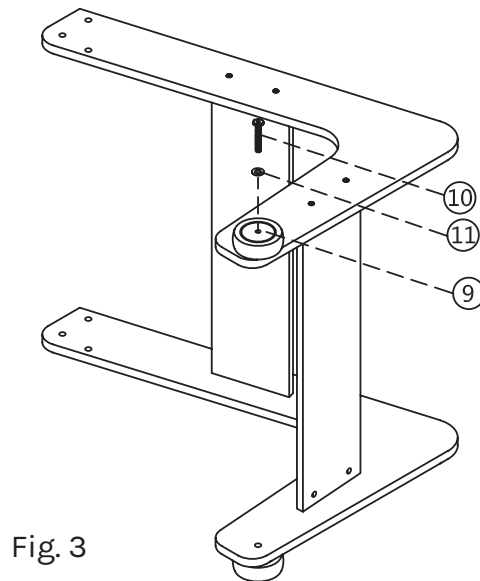

Fig. 3
3. Connect the 2x wheels (9) to the end legs using 2x washer 5/16" (11) and 2x bolts 5/16"x2-1/2" (10). (Fig.3)